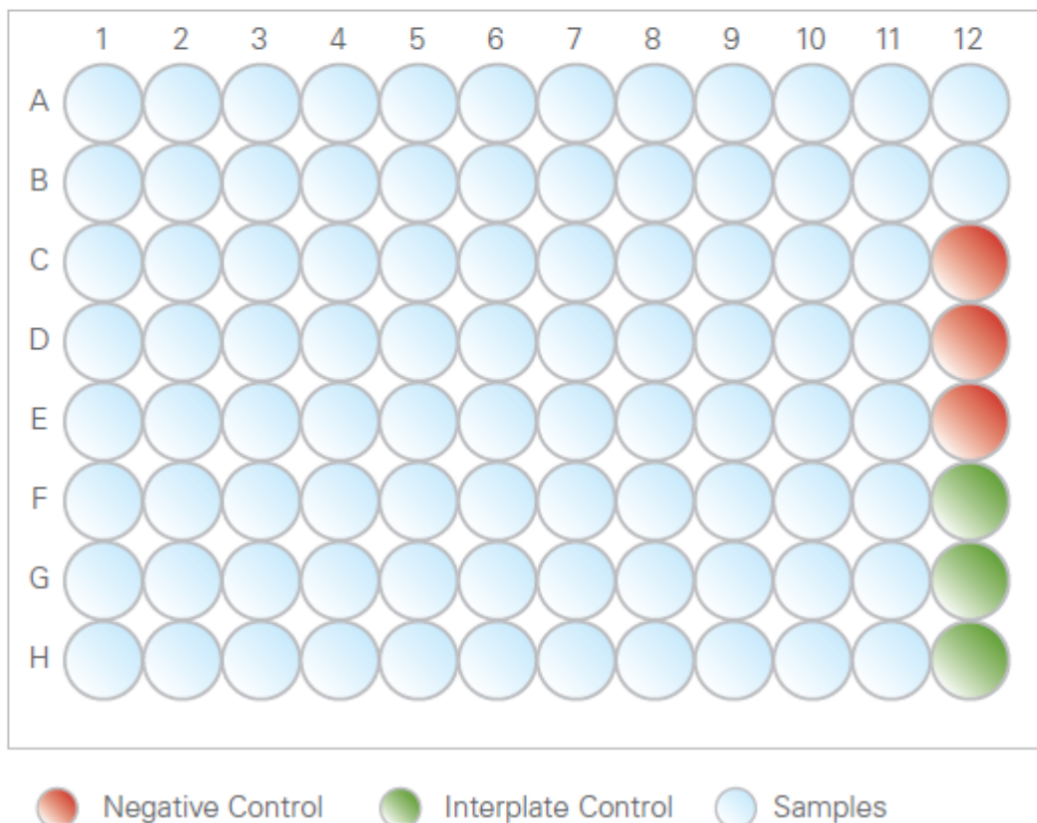

Figure 2. Incubation plate layout
- 9 Prepare a 96-well plate and label as Incubation plate. Mark the control position on the plate according to plate layout (Figure 2).Use a multi-channel pipette to transfer **3 μL** of the Incubation mix from the 8-well strip to the bottom of each well of a 96-well plate by using reverse pipetting. Pipette from the uppermost part of the Incubation mix to prevent liquid from sticking to the outside of the pipette tip. Do not change pipette tips.
- 10 Use a multi-channel pipette to add  1 μL of each sample to the bottom of the sample well of the incubation plate, according to the plate layout in Figure 2.
- 11 Use a multi-channel pipette to add  1 μL of negative control and IPC from 8-strip to the bottom of the well in position C12-H12, according to the plate layout in Figure 2.